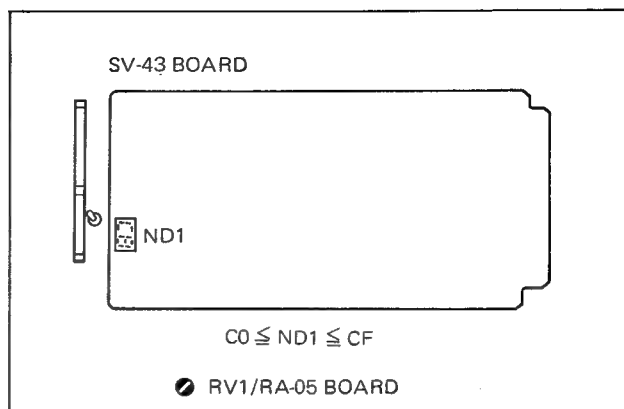

Fig. 3-22. Motor Torque Adjustment Value
d. After motor stops, confirm that the number shown in Fig. 3-22 is indicated by the display element ND1 on the SV-43 board. If necessary, adjust RV1 on the RA-05 board.